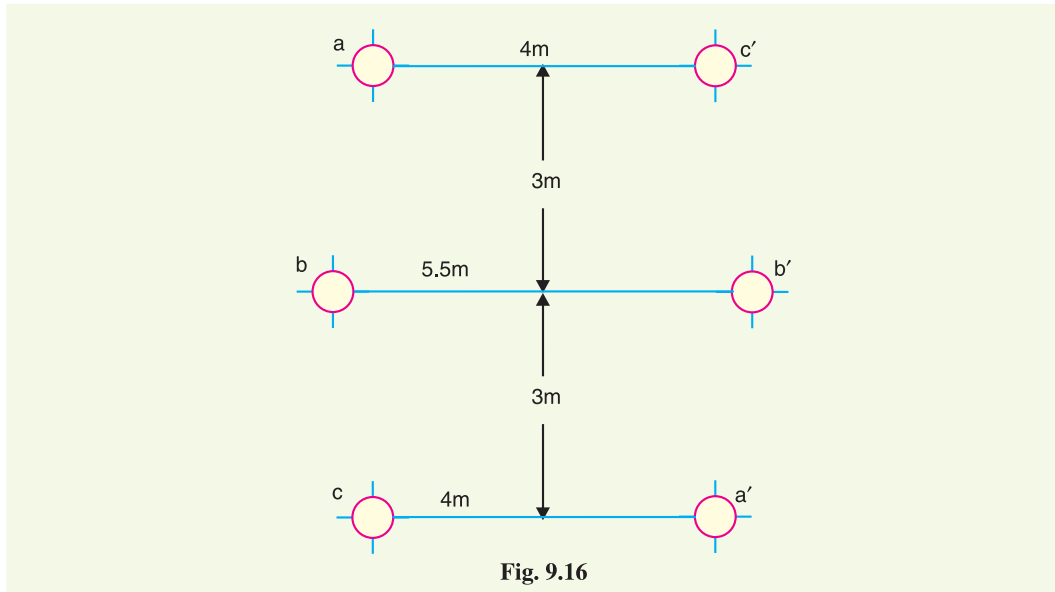

Fig. 9.16
**Example 9.8.** Find the inductance per phase per km of double circuit 3-phase line shown in Fig. 9.16. The conductors are transposed and are of radius 0.75 cm each. The phase sequence is ABC.